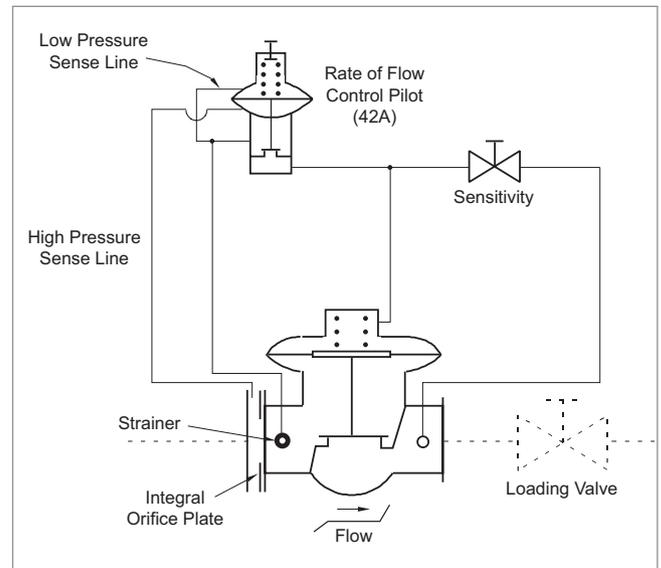

Figure 2 – Model 200-42A
The Model 200-42A valve operates using the same differential pressure principle as the 200-40A valve except that the normally-closed 42A pilot is located in the upstream side of the pilot loop (Figure 2). An increase in differential pressure across the valve orifice plate causes the 42A pilot to open, introducing system inlet pressure into the main valve (200) cover chamber and throttling the main valve to restrict product flow. The 200-42A configuration minimizes pressure drop when the valve is not throttling because the main valve cover chamber is closed off from high upstream pressure by the normally-closed 42A pilot.